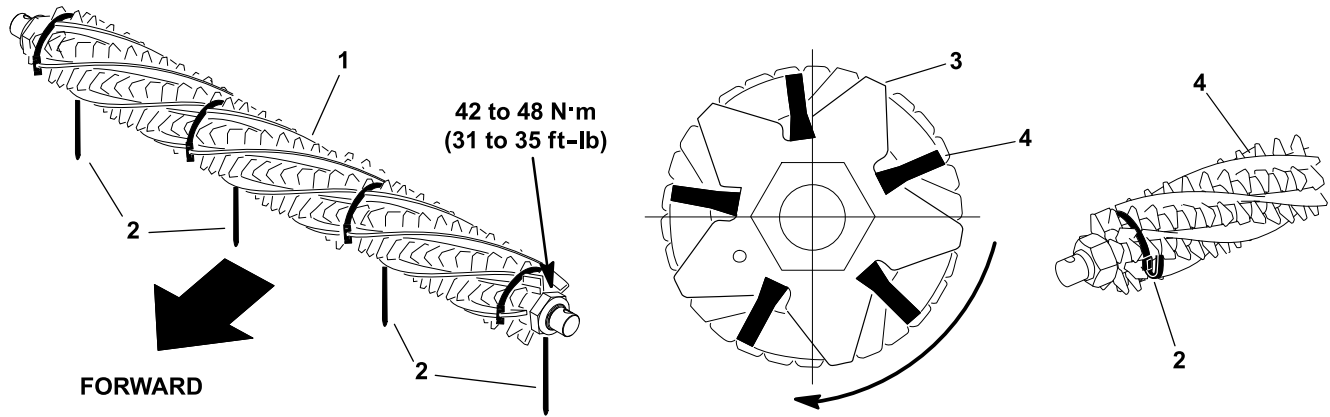

Figure 216
3. If groomer reel is equipped with broomer kit, remove straps and broomer brushes from reel (Figure 216).
- B. Slide a brush into each groove around the full length of the groomer reel (Figure 216). Make sure that the brushes are seated in groomer blade slots (Figure 216).
- C. Loosely wrap the straps around the groomer reel shaft and brushes as shown (Figure 216). Straps should be positioned in the pre-cut notches of each brush and at the following locations on the broomer shaft:
- E. Cut off strap extension approximately 6mm (1/4 in) beyond retainer and fold the excess strap over the buckle (Figure 216).